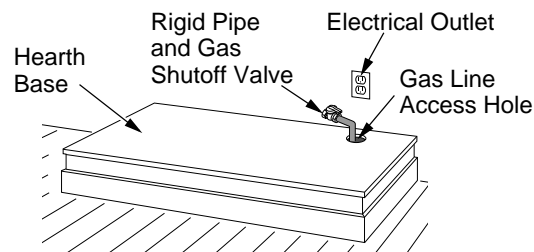

Figure 13 - Placing Hearth Base Accessory Against Wall
4. Place hearth base accessory against wall at installation location. Cut an access hole in hearth top to run flexible gas line to firebox (see Figure 13). Make sure to locate access hole so cabinet mantel will cover it when installed. *Note:* You can secure base to floor using wood screws. Countersink screw heads and putty over.